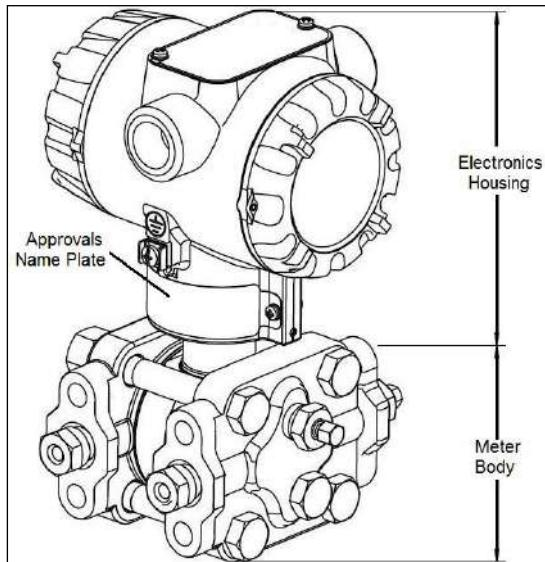
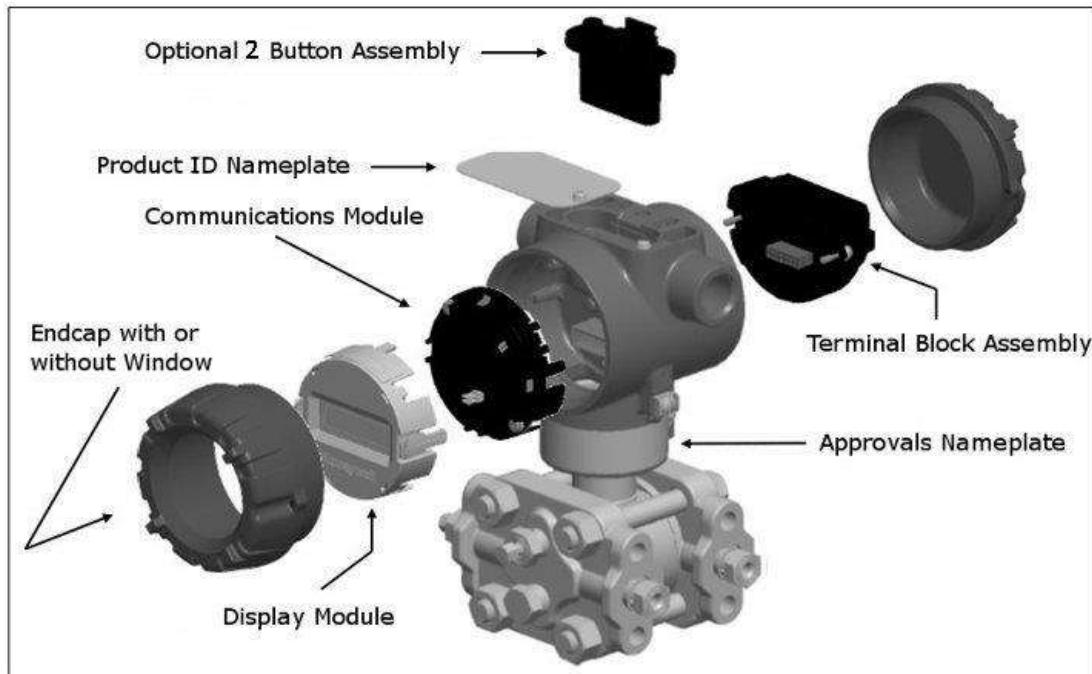

Figure 41 – ST 700 Basic Transmitter - Major Assemblies
Figure 42 – ST 700 Basic transmitter Electronics Housing Components
As shown in Figure 41 the ST 700 Basic transmitter is packaged in two major assemblies: the Electronics Housing and the Meter Body. The elements in the Electronic Housing respond to setup commands and execute the software and protocol for the different pressure measurement types. Figure 42 shows the assemblies in the Electronics Housing with available options.
The Transmitter nameplate mounted on the bottom of the electronics housing (see Figure 42) lists its model number, physical configuration, electronics options, accessories, certifications, and manufacturing specialties. Figure 43 is an example of a typical Gauge Pressure (GP) or Atmospheric Pressure (AP) Transmitter name plate. The model number format consists of a Key Number with several table selections. The Differential Pressure (DP), Absolute Pressure (AP), and Gauge Pressure (GP) name plates are essentially the same. The DP model provides one additional entry (7 vs. 6) in the Meter Body Selections (Table I) to accommodate the static pressure rating.
An “approvals” name plate is located on the bottom of the Electronics Assembly; see Figure 42 exact location. The approvals name plate contains information and service marks that disclose the Transmitter compliance information.
Zero and Span adjustments are possible in ST 700 Basic Transmitter with the optional external 2-button and integrated two-button assemblies. See Figure 42 for the external 2-button assembly.